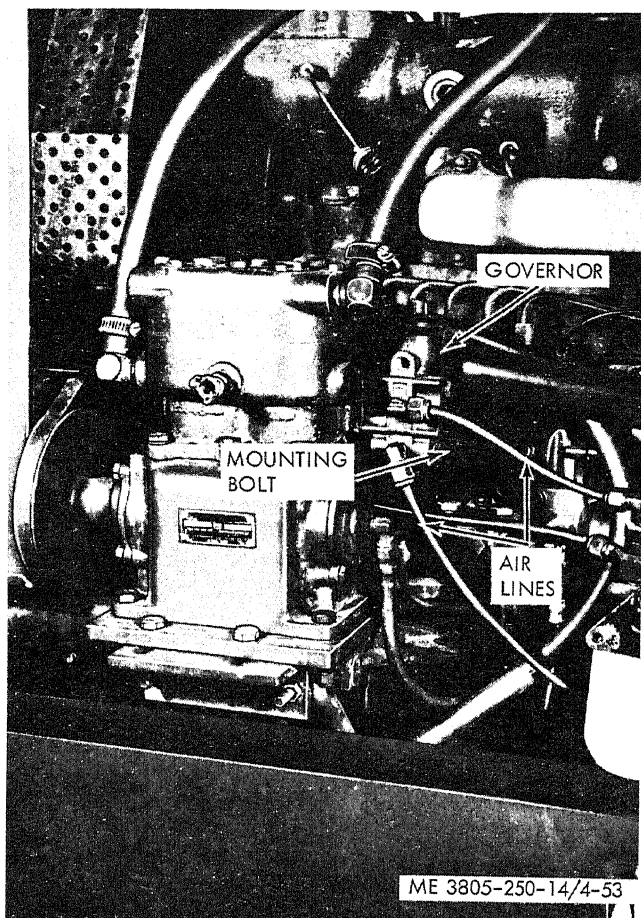

Figure 4-53. Air compressor governor, removal and in stallion.
b. Removal. (fig. 4-53).
(1) Block the loader or apply the parking brake.
(2) Drain the air system.
(3) Clean the governor and connecting air lines.
(4) Disconnect air lines leading to the alcohol evaporator and air compressor. Cap or plug openings.
(5) Remove two bolts, lockwashers and nuts securing the governor to the air compressor, and remove the governor.